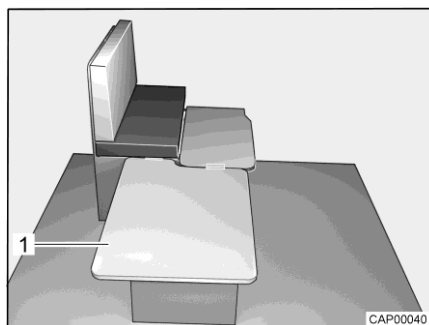

Fig. 48 During conversion
- Hook removable board (Fig. 48,1) in on the side of the bench and place it on the table.